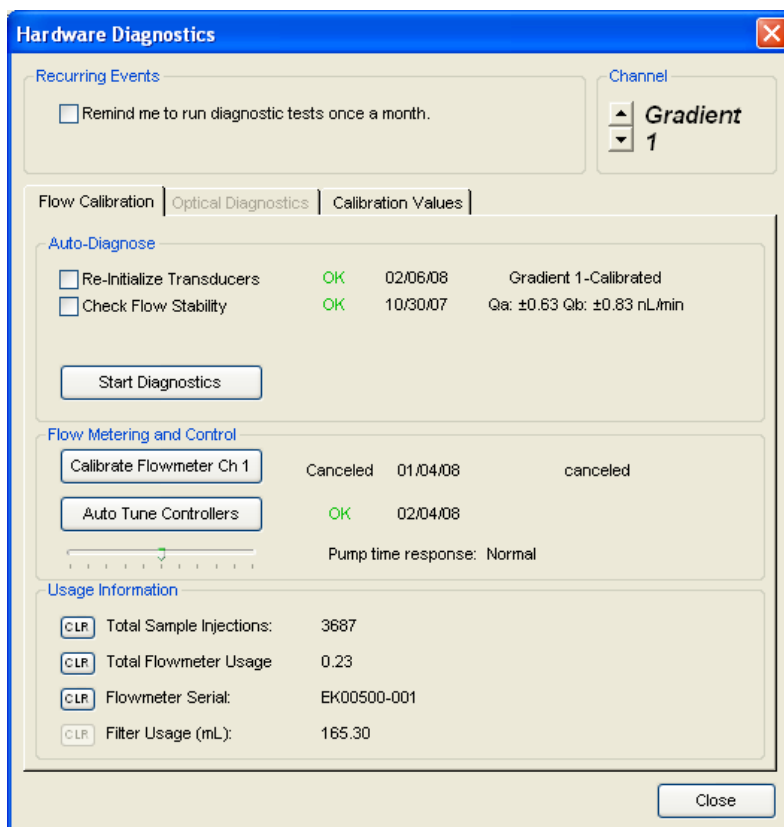

Figure 5-1 Hardware Diagnostics Dialog—Re-initialize Transducers
1. Select **System > Hardware Diagnostics** to initiate the pressure transducer zeroing procedure to display the Hardware Diagnostics dialog (Figure 5-1).